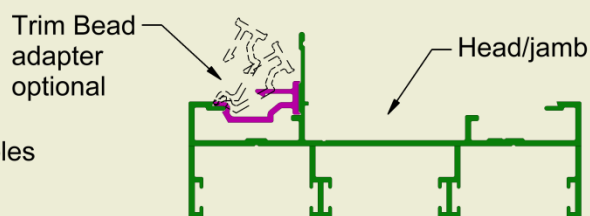

Figure 3.4 Detail of Installation of Trim Bead Adapter
- Fix the **jamb** Trim Bead Adapter to door jamb as shown in **Figure 3.1**. The Trim Bead Adapter is 55mm short so it does not clash with fin patch in top corner, as shown in **Figure 3.2** and **3.3**. Place the adapter flush at the bottom of door frame. Roll and clip in place the Trim Bead Adapter as shown in **Figure 3.4**.
- Fix the **head** Trim Bead Adapter to door head as shown in **Figure 3.1**. The Trim Bead Adapter is 110mm short so it does not clash with fin patch in top corner on both sides, as shown in **Figure 3.2** and **3.3**. Place the adapter equidistant from edge of door frame. Roll and clip in place the Trim Bead Adapter as shown in **Figure 3.4**.